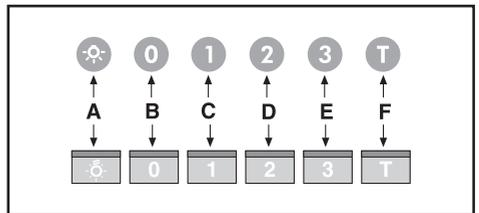

Fig.9
• **Commands luminous (Fig.9)** the key symbols are explained below: